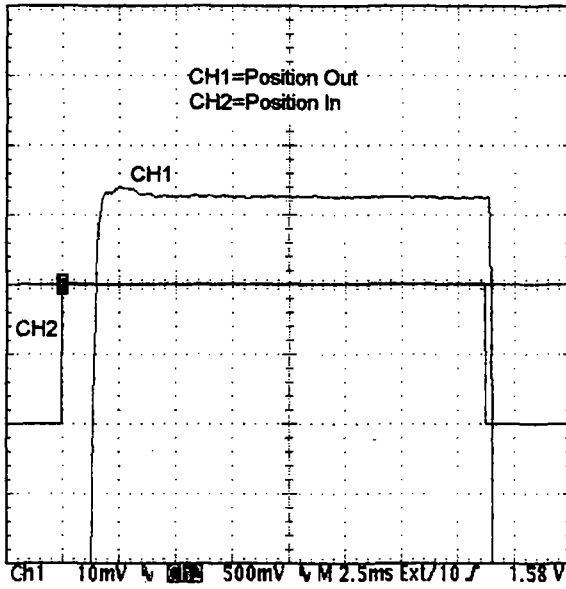

Figure 10.
6. Turn R25 CW to eliminate the first undershoot. See Figure 10.